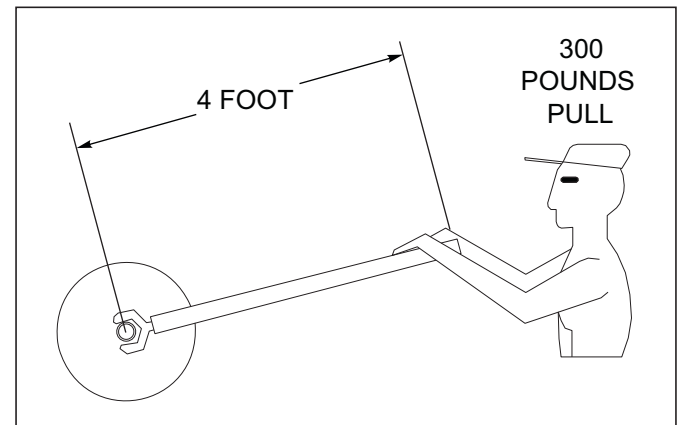

Figure 4-9: 1,250 Foot-Pounds of Torque
3. When reassembling the disc gang, remove any soil or mud from the disc blades and spools to ensure a clean surface when tightening the gang. Clean the gang threads and install the gang nut. Torque the disc gang shaft to a minimum of 1200 ft-lbs **See Figure 4-9.**